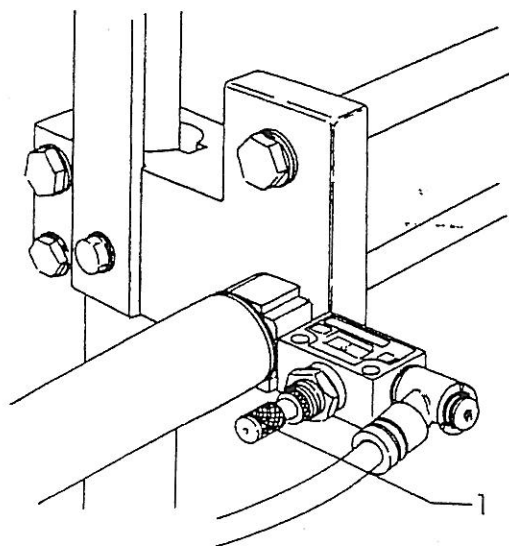

Fig.10.1.18
- Adjust the speed of the extraction piston using ring nut 1 fig. 10.1.18;